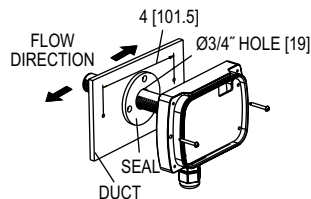

Figure 2C
- To install the enclosure directly on the duct as shown in Figure 2C, drill a  $\varnothing 19$  mm hole on the duct, insert the probe with the seal ring, and screw the enclosure on the duct directly using the two longer screws provided.